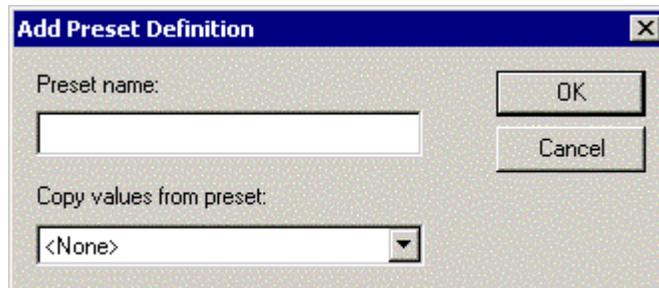

Figure 5.8 Add Preset Definition Dialog
3. Click **Add Preset**. The **Add Preset Definition** dialog appears, as shown in Figure 5.8.